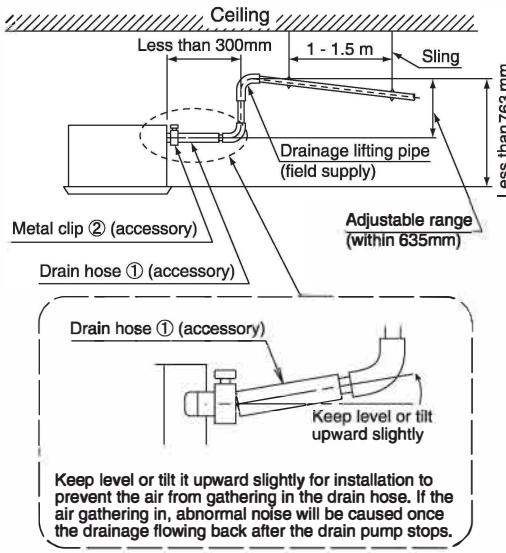

Figure 17
- Keep the drainage lifting pipe vertical and maximum 300mm away from the air conditioner. (Refer to Figure 17)